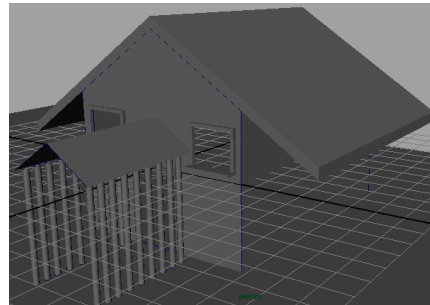

*Figure 3-138 Duplicate of the pillar surface*
8. Make sure the pillar surface is selected. Maximize the top viewport and press CTRL+d; a copy of pillar surface is created. Now, move the pillar surface to the place shown in Figure 3-138. Next, press SHIFT+d seven times; seven pillars are created in a row at equal distance from each other, as shown in Figure 3-139.